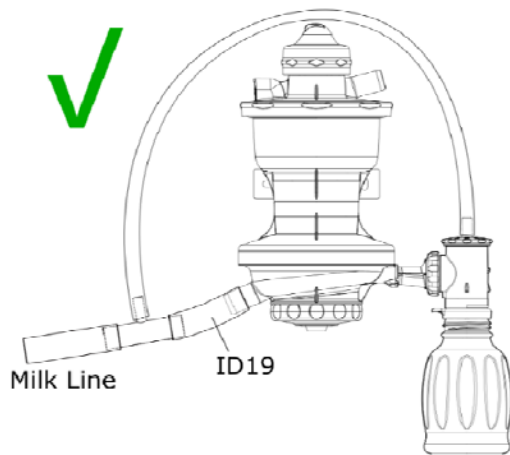

Fig. 2
- Pay attention at the correct installation of the bypass (Figure 2 and 3).
Pay attention at the correct installation of the bypass (Fig. 2 and 3).